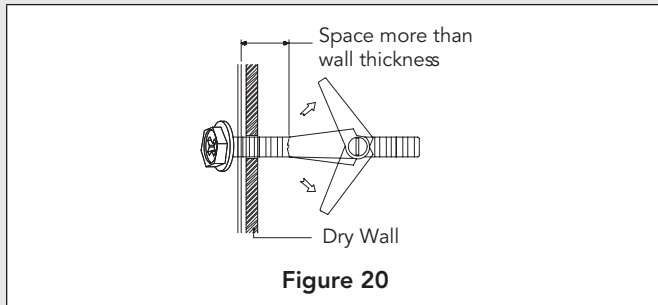

Figure 20
- Position mounting plate on wall and insert toggle bolt assemblies through the drywall holes or start the lag screw(s) through the wall stud(s). See Figure 20.